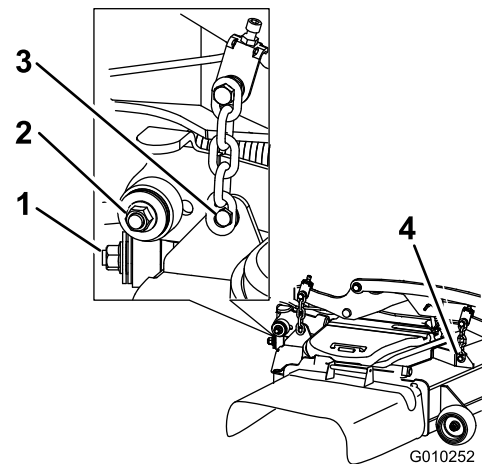

Figure 119
7. Remove and retain the hardware on both sides of the deck as shown in Figure 119.